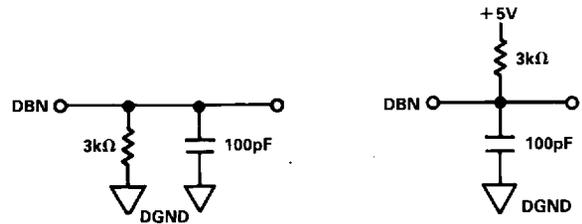

Figure 3. Load Circuits for Access Time Tests (t₁₂)
- t₄, t₁₀, t₁₁ and t₁₂ are measured with the load circuits of Figures 3 and 5 and defined as the time required for an output to cross 0.8V or 2.4V.